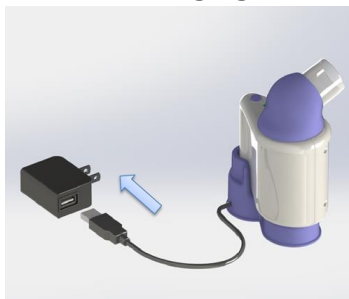

Figure 6 Plug USB cable into USB port of computer or USB power source
- 11.2.2. Plug the USB cable into a USB port of a computer or USB power source as shown in Figure 6. The Charging Station has a rating of 5V, 500mA.